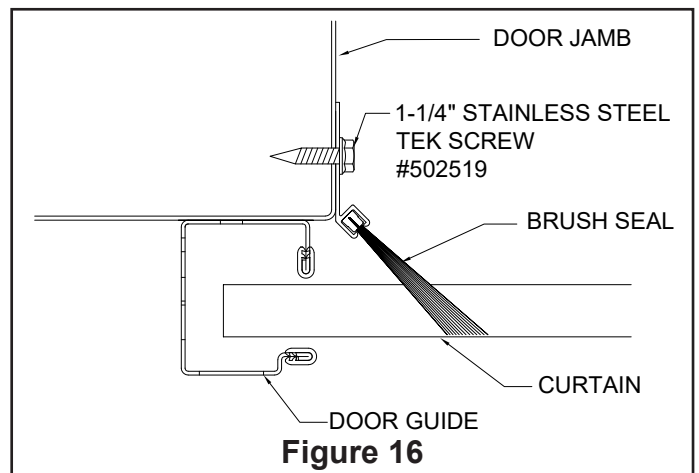

Figure 16
11.2 Close the door before installing the brush seal. Position brush seal so it just touches the flat portion of the inside of the curtain (See Figure 16). Fasten brush seal to jamb every 12” with appropriate fasteners.